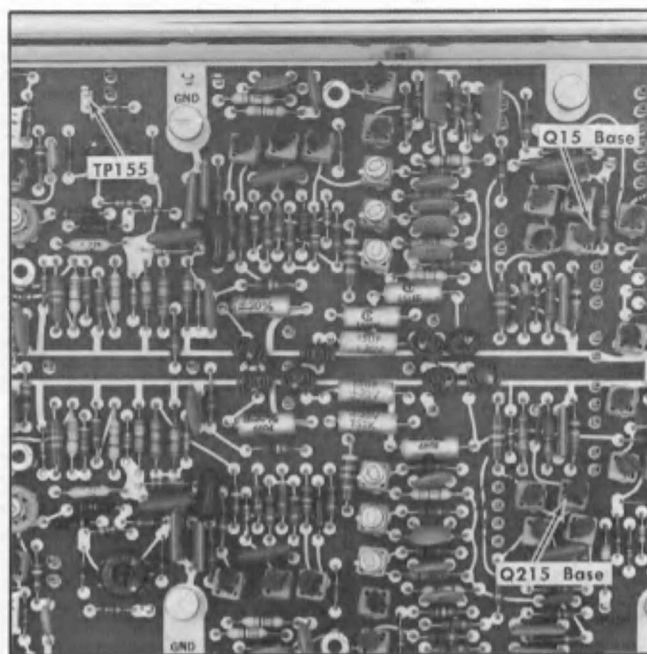

Fig. 7-7. Type 356 test points for adjustment of Memory Gate Width controls.
d. Refer to Fig. 7-7 for the Type 356 test points located on the instrument left side. Controls are shown in Fig. 7-4A. Connect the test oscilloscope external trigger 1X probe tip to TP155. Connect the vertical 10X probe tip to the Q15 base at R13.
c. Connect the test oscilloscope 10 \times probe to Q15 base (or Q215 base for Channel B) shown in Fig. 7-7.